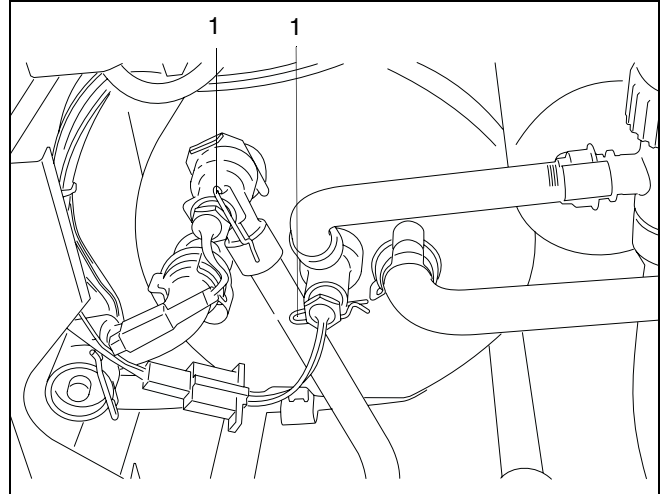

fig. 62 Remove safety clips of sensors DHW cold and hot
- Pull out the safety clips (→ fig. 62, item 1).